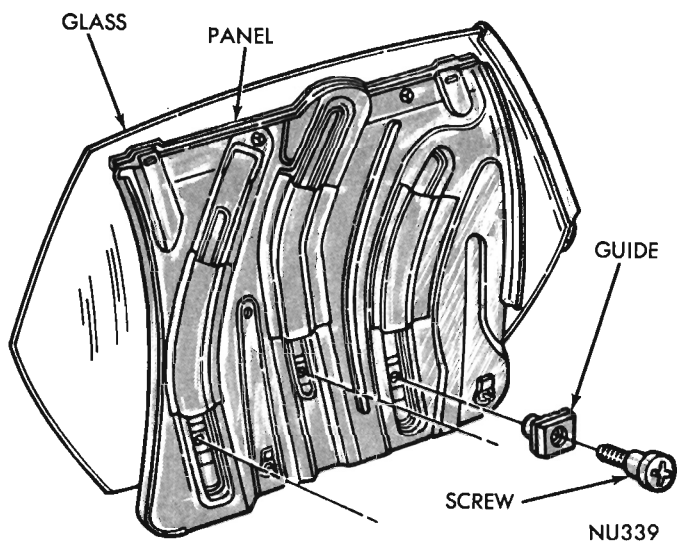

Fig. 31 - Track Panel Stabilizer Guides
(8) Place track panel and glass assembly on a protected surface with the glass facing downward.
(9) Remove track stabilizer guide screws (Fig. 31) and remove guides from track panel.
(10) Remove U-nuts from outer side of track